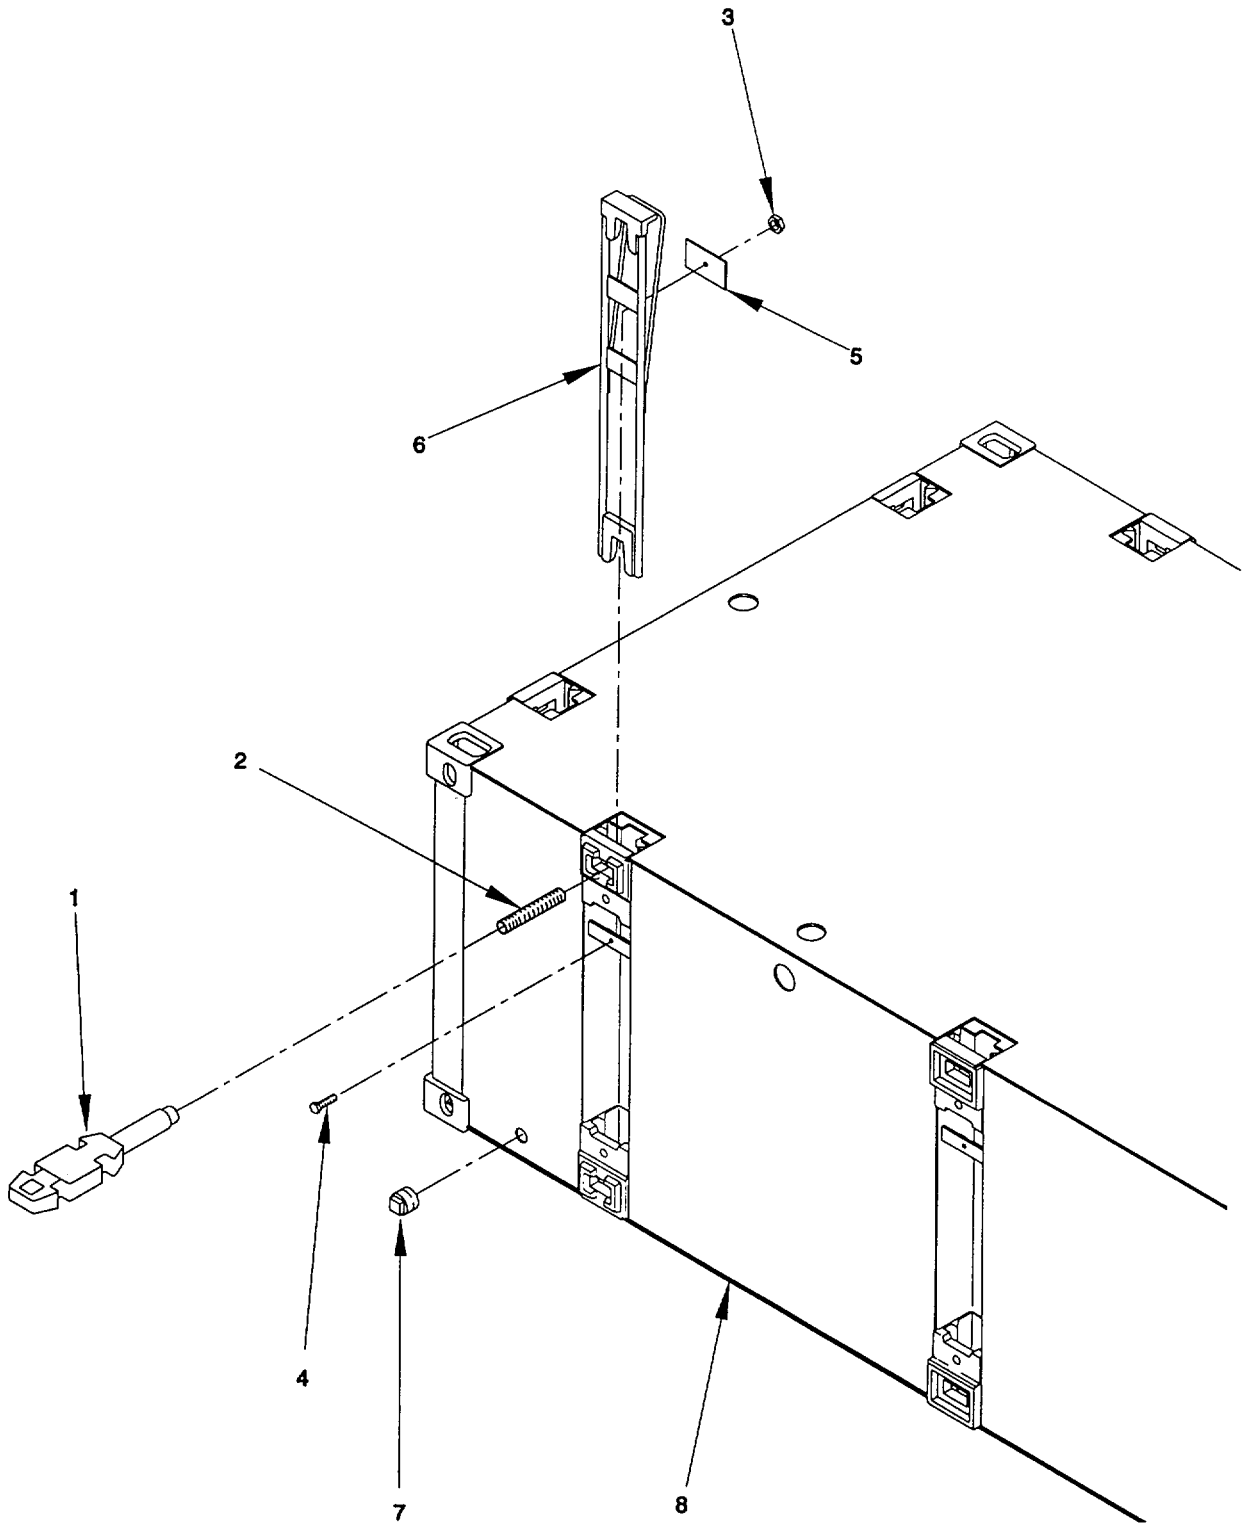

Figure 2-85. P40 40' Non-Powered Pontoon Assembly, Service/Repair
a. Service. (figure 2-85)
- (1) Check connector assemblies.
- (2) Push up on retainer on underside of connector pin to release pin from male connector assembly housing. Remove connector pin to expose deployment spring. Remove spring and inspect spring for cracks or cuts (replace as necessary) Lubricate spring using a light coat of lubriplate grease.
- (3) Use a sponge to remove water from lift shackles.
- (4) Wire brush and spot paint any exposed or rusting surfaces.
b. Repair. (figure 2-85)
- (1) Remove interlock connector (1) and connector pin spring (2) in two places from each connector.
- (2) Remove hex nut (3), hex bolt (4), locking plate (5) to free interconnect guillotine (6).
- (3) Remove pipe plug (7) from module (8).
- (4) Replace pipe plug (7) into module (8).
- (5) For each of the six connectors, replace interconnect guillotine (6), position locking plate (5), and secure with hex bolt (4) and hex nut (3).
- (6) Grease each connector pin spring (2). Replace spring (2) and interlock connector (1) in two places on each connector subassembly.